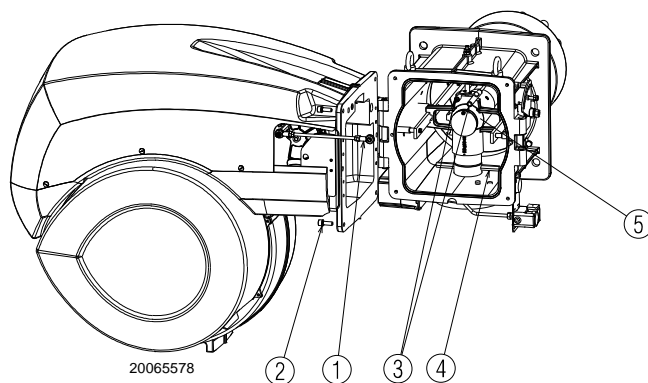

Fig. 13
- After you have uncoupled the the head movement lever tie-rod 1) and removed the 4 fixing screws 2), open the burner on the hinge (Fig. 13),